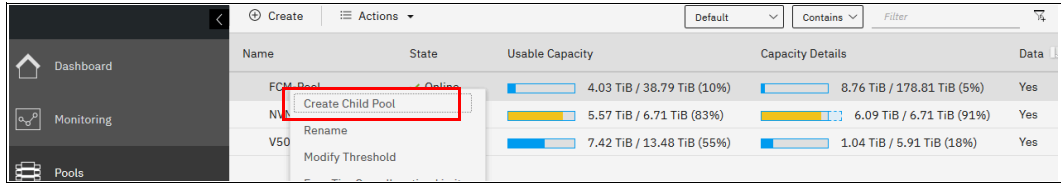

Figure 5-19 Creating a child pool
1. Select **Pools** → **Pools**, right-click the parent pool that you want to create a child pool from, and select **Create Child Pool**, as shown in Figure 5-19 on page 253.